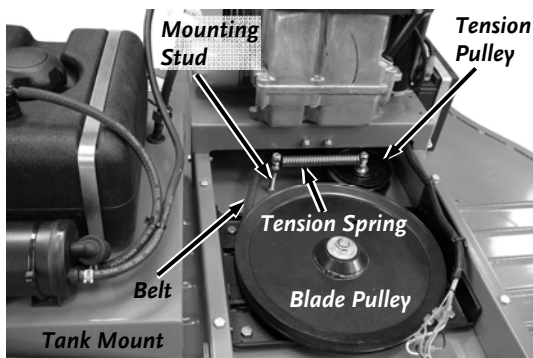

Figure 31
7. Carefully lift and set the Fuel Tank Mount to the Fuel Line side of the Engine (right hand side) (**Figure 31**).
12. To install the new Belt, follow the above procedure in the reverse order making sure that the Belt is on the inside of the Tension Pulley (**Figure 31**).